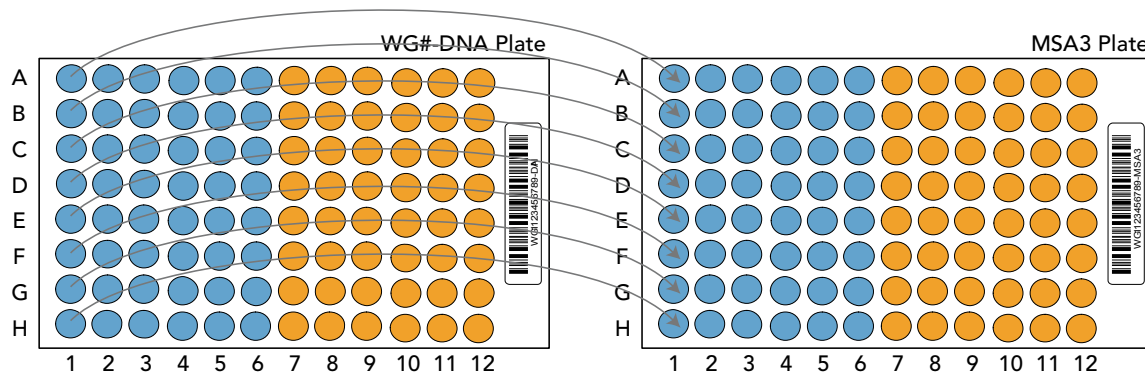

Figure 26 Distributing Sample to Wells
- Transfer 4 μ l DNA sample, from the WG#-DNA plate to the corresponding wells in the MSA3 plate (Figures 26).